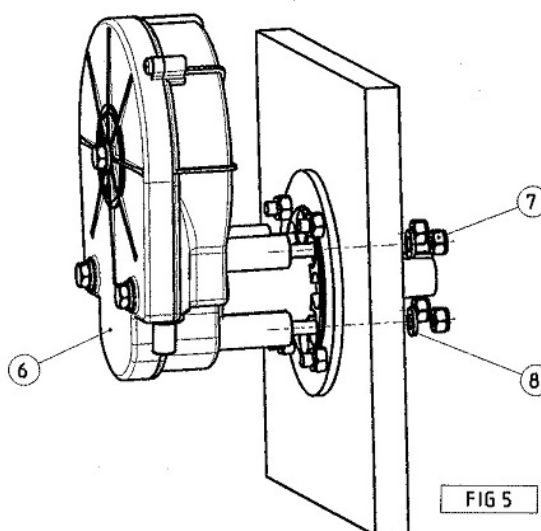

FIG 5
- Insert the steering box (6) in the special flange seats (see Fig. 5 and 6), positioning it as allowed by the clearances (it is possible to mount the box in 8 different positions, at intervals of 45°).
- Fasten the stud with n° 4 self-locking nuts (7), n° 4 washers (8), tightening them crosswise.